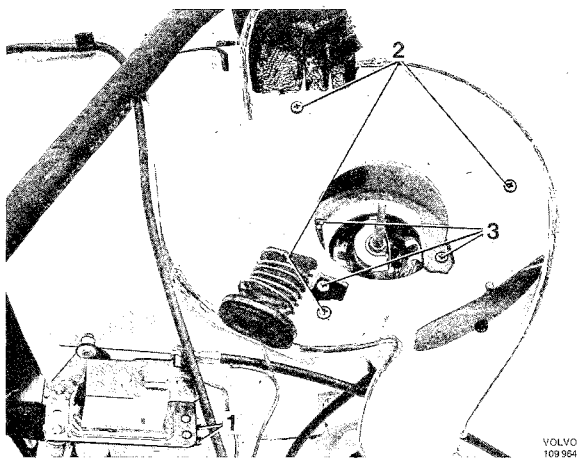
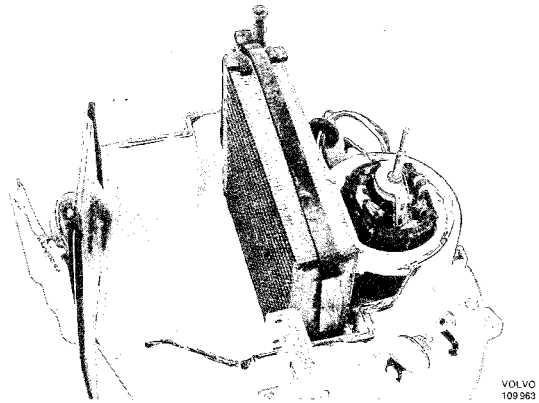

Fig. 8-85. Disassembling central unit
Fig. 8-86. Placing cell assembly
2. Unscrew the two left screws for the tunnel bracket (1, Fig. 8-85).
4. Undo the screws (2) for the inner end and lift off the end.
5. Undo the screws for the fan motor retainer (3).
8. Place the new cell assembly with insulation in position in the right half of the central unit (Fig. 8-86).